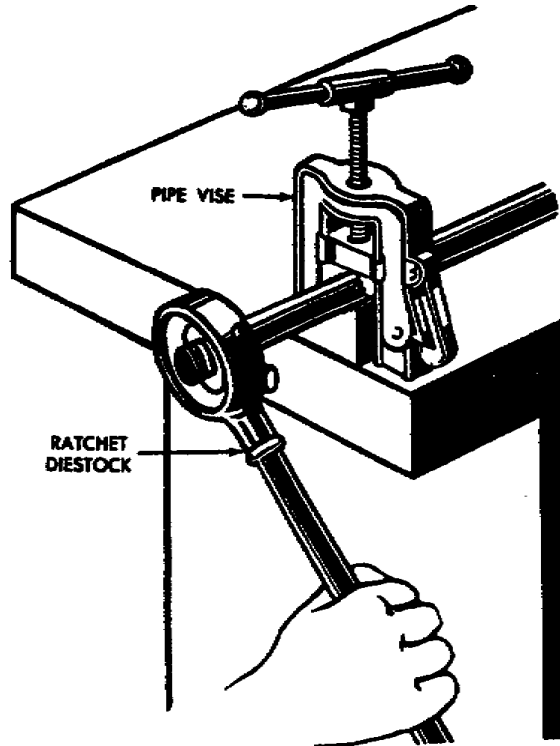

Figure 40. Threading pipe.
(a) Lock the pipe securely in a pipe vise (fig 40).
- (g) Rotate the diestock clockwise a few short strokes to start the cut. Lock ratchet and pump handle up and down several strokes (fig 40).